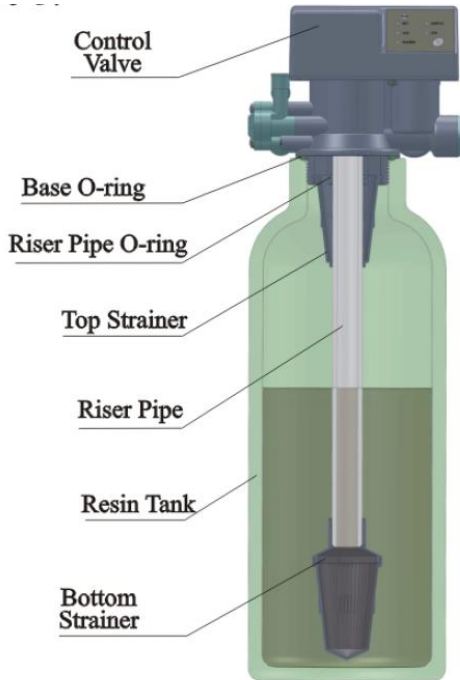

Figure1-1
① The filter or softener should be located close to drain.
② Ensure the unit is installed in enough space for operating and maintenance
③ Brine tank need to be close to softener.
④ The unit should be kept away the heater, and not be exposed outdoor. Sunshine or rain will cause the system damage
⑤ Please avoid to install the system in one Acid/Alkaline, Magnetic or strong vibration circumstance, because above factors will cause the system disorder.
⑥ Do not install the filter or softener, drain pipeline in circumstance which temperature may drop below 5°C
⑦ One place is recommended to install the system which cause the minimum loss in case of water leakage.
① Install control valve
a. As the Figure 1-1 shows, select the riser pipe with 26.7mm OD, glue the riser pipe to the bottom strainer and put it into the mineral tank, cut off the exceeding tube out of tank top opening. Plug the riser tube in case of mineral entering.